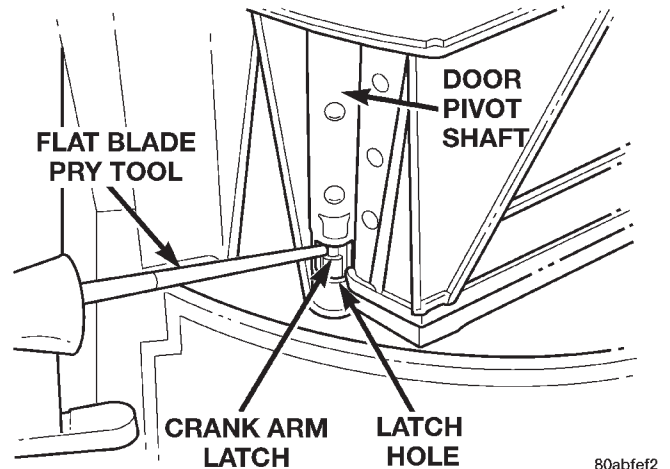

Fig. 52 Mode Door Lever Remove/Install - Typical
(1) Remove and disassemble the heater-A/C housing. See Heater-A/C Housing in this group for the procedures.
(2) Remove the defrost and panel/demist door vacuum actuators from the heater-A/C housing. See Mode Door Vacuum Actuator in this group for the procedures.
(3) Insert a screwdriver into the latch hole (Fig. 52) of the panel/demist door pivot shaft to release the latch of the panel/demist door lever, and pull the lever out of the pivot shaft from the outside of the upper half of the heater-A/C housing.
(2) Remove the panel/demist door and lever from the upper heater-A/C housing. See Panel/Demist Door and Lever in this group for the procedures.
(3) Insert a screwdriver into the latch hole (Fig. 52) of the panel/demist door pivot shaft to release the latch of the defrost door lever, and pull the lever out of the pivot shaft from the outside of the upper half of the heater-A/C housing.
(2) Remove the floor door vacuum actuator from the lower heater-A/C housing. See Mode Door Vacuum Actuator in this group for the procedures.
(3) Insert a screwdriver into the latch hole (Fig. 52) of the floor door pivot shaft to release the latch of the floor door lever, and pull the lever out of the pivot shaft from the outside of the lower half of the heater-A/C housing.